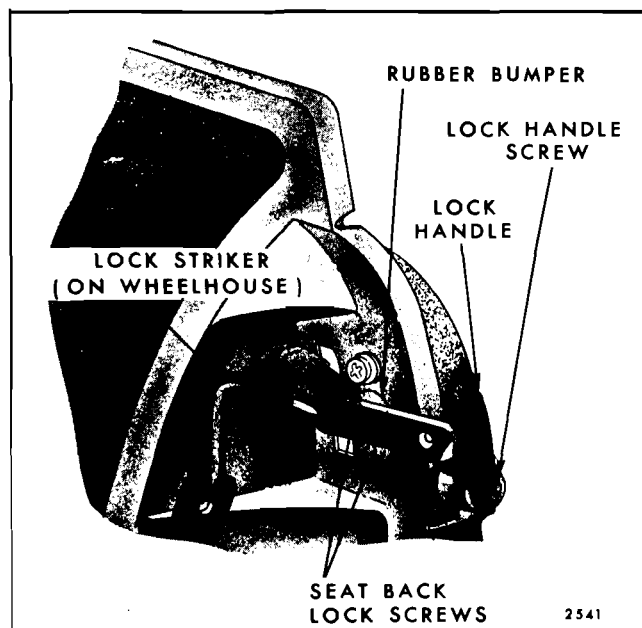

Fig. 15-82—Folding Second Seat Back Lock and Striker - All "A & B" Station Wagons (Except Vista Cruiser and Sport Wagon Styles)
4. To install seat back lock assembly, reverse removal procedure. A small amount of lock adjustment is available to obtain proper engagement of lock bolt with lock striker on wheelhouse as shown in Fig. 15-82.